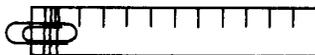

Figure 6-29
2. Attach the paper clip over the 1 in. position on the ruler with a rubber band. Allow just enough of the clip to extend from the end of the ruler to form a loop (Fig. 6-29).